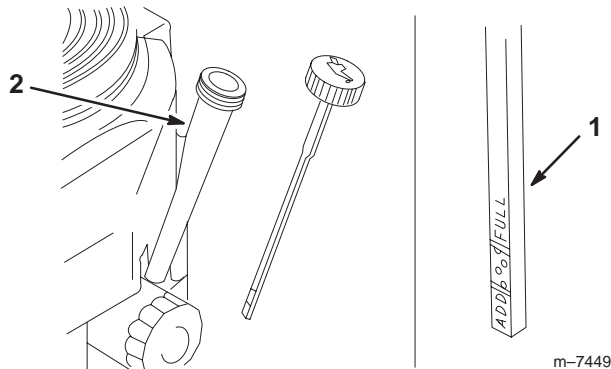

Figure 33
4. Clean around the oil dipstick (Fig. 33) so that dirt cannot fall into the filler hole and damage the engine.
5. Unscrew the oil dipstick and wipe the end clean (Fig. 33).
6. Slide the oil dipstick fully into the filler tube, **but do not thread onto tube** (Fig. 33).
9. Slowly pour approximately 80% of the specified oil (refer to Service Interval/Specification, page 28) into the filler cap (Fig. 33).